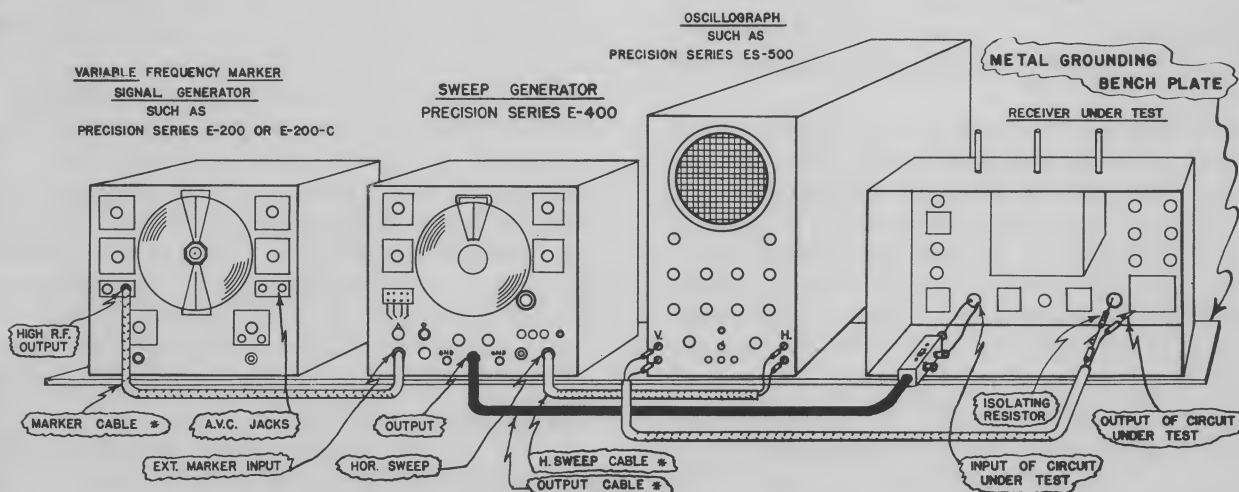
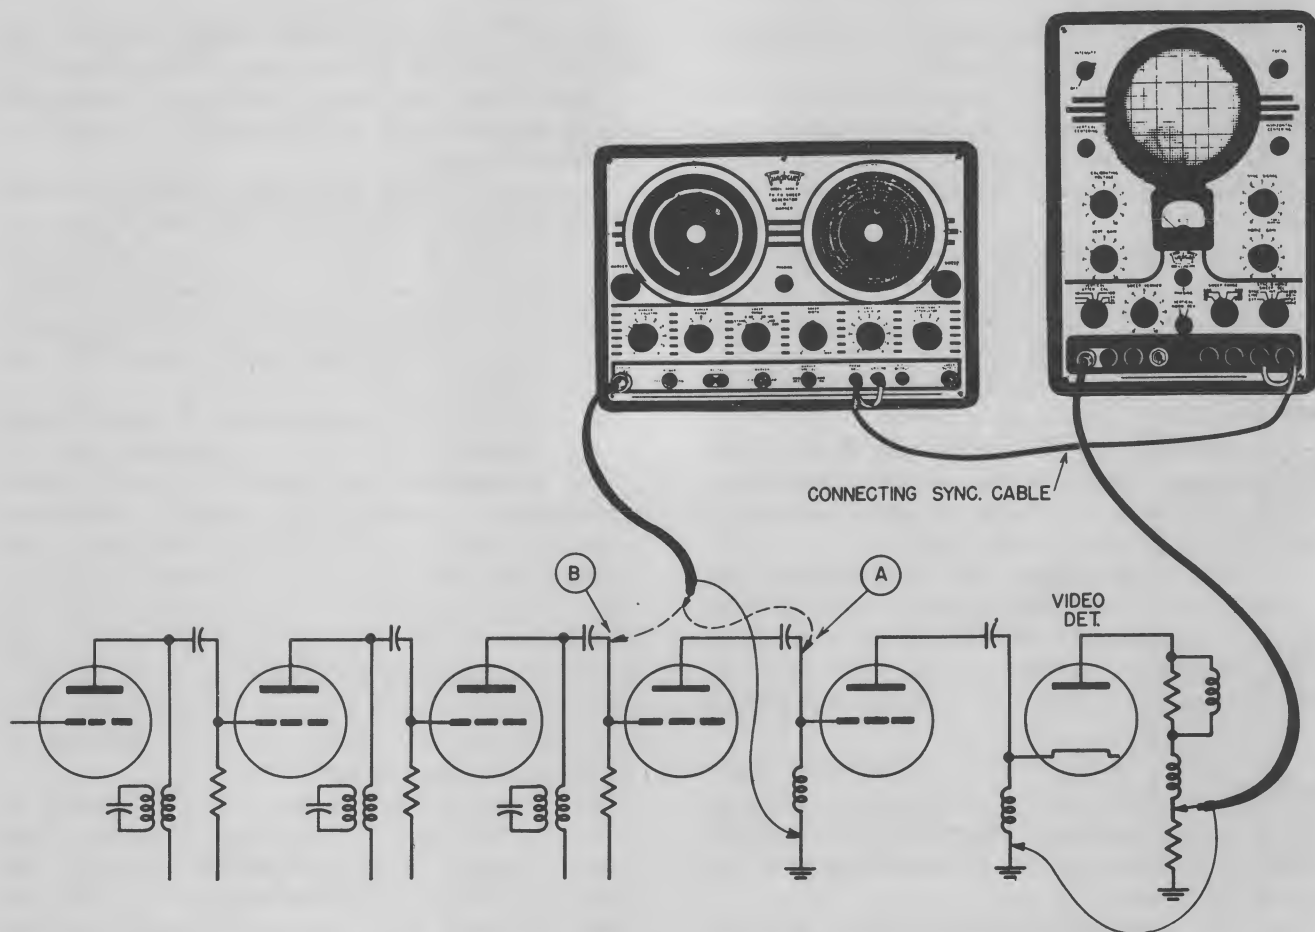

Fig. 2-7. Test equipment alignment set-up; separate marker and sweep generator. Courtesy Precision Apparatus Co.
Fig. 2-8. Test equipment alignment set-up; combined marker and sweep generator. Courtesy Triplett Electrical Instrument Co.
*f. Typical Interconnection Hookups.* Figure 2-7 shows a typical hookup of equipment using an external marker generator. Figure 2-8 shows a typical hookup of equipment, where the sweep generator has an internal marker.